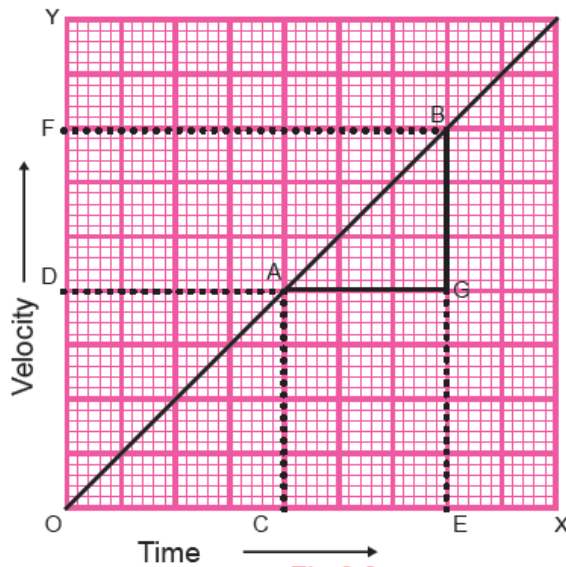

Fig 6.9.
These equations can be derived from the graphs. Consider the velocity- time graph in fig 6.9 where the velocity changes from u at point A to v at point B. From A, draw two perpendiculars, one to the x axis (AC) and another to the y axis (AD). Similarly, perpendicular lines are drawn from B (BE & BF). AG is the perpendicular drawn from A to BE.